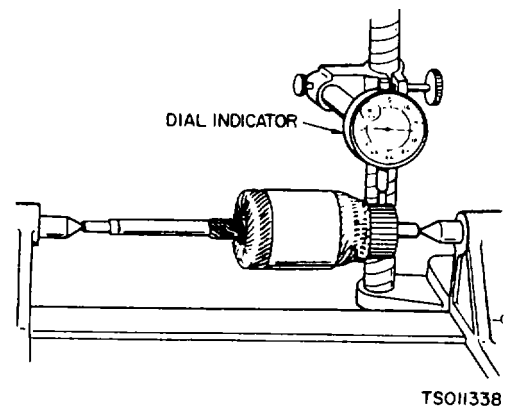

Figure 6-5. Checking Commutator Runout
(2) Testing for open circuit. The most common place for an open circuit to occur is at the commutator riser bars. Inspect the points where the conductors are joined to the commutator bars for loose connections.
(3) Testing commutator runout. Place the commutator in a test bench and check out runout with a dial indicator (fig. 6-5). When commutator runout exceeds.004 inch (. 010cm), reface the commutator.